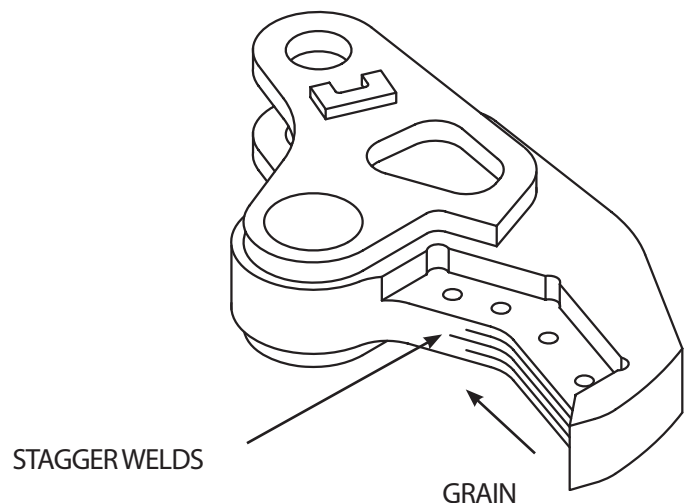

FIGURE 6-4
8. To hardsurface the area, from behind the piercing tip to approximately the midpoint of the primary blade, apply 3 or 4 beads of Amalloy 814 in single passes running the length of the shear (figure 6-4)